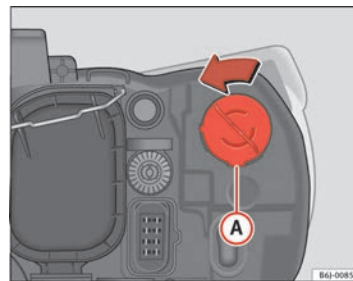

Fig. 132 Indicator light
- Rotate the bulb holder ⇒ fig. 132 **A** to the left and pull.